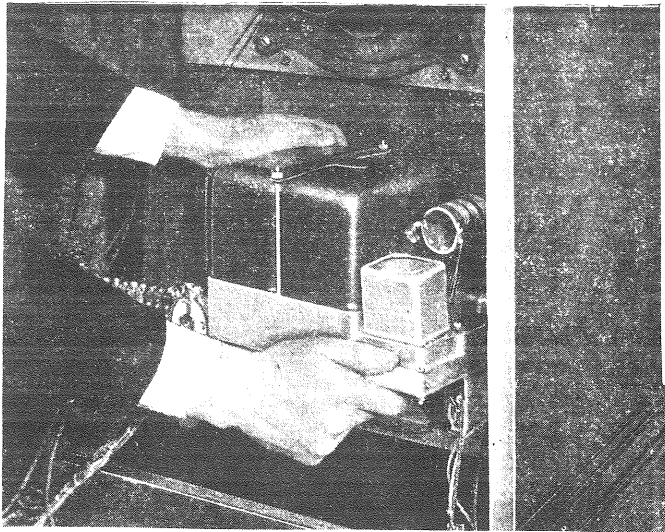

Figure 24—Removing receiver assembly from Radiola 46
- (e) Remove the three machine screws and washers that hold the receiver assembly to the bottom of the cabinet. The chassis may now be lifted clear of the cabinet, and placed in a position convenient for work (see Figure 24). After the replacement has been made it should be returned to the cabinet in the reverse manner of that used to remove it. When replacing the tuning control and volume control knobs make certain that the gear teeth on the volume control knob meshes with the gear on the volume control shaft.